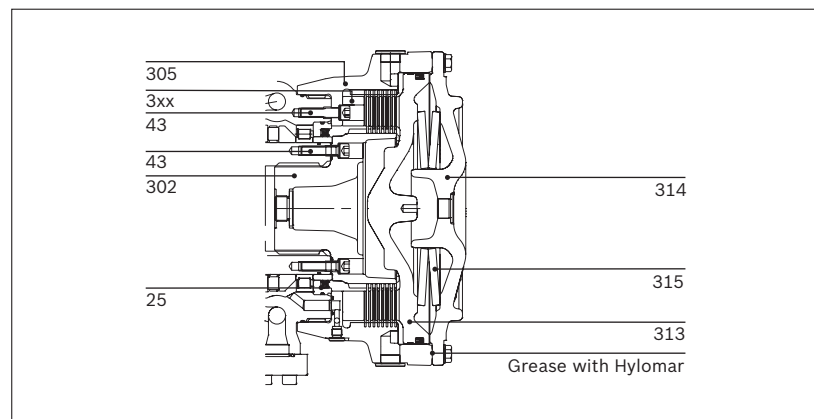

Fig. 3.27
3. Control that seal and Seal retainer (25) is mounted according to figure 3.27.
4. Mount Disc centre (302) on the cylinder block. Oil the screws (43) and assemble with torque 136 Nm (100 lbf-ft).
5. Put the Brake housing (305) on the motor, and mount the right spacer (3xx). Oil the screws and mount them with tightening torque 136 Nm (100 lbf-ft). See table 3.12.